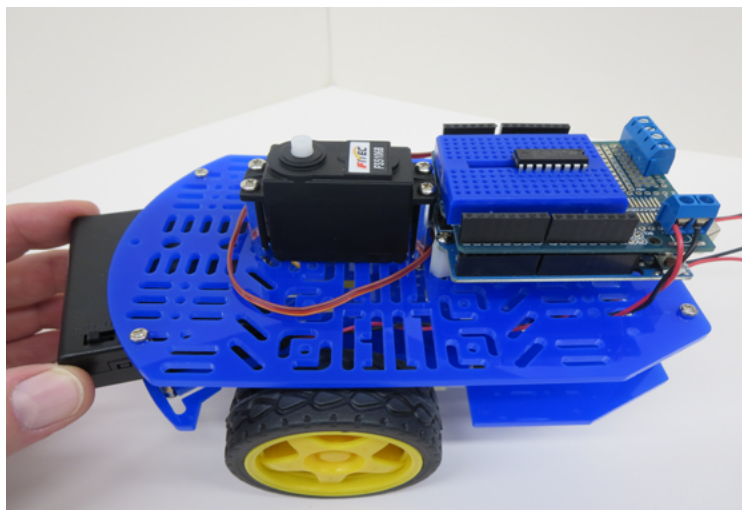

Fig.14
7. Insert the 4AA Battery Pack and connect the Red and Black wires as shown in Fig. 14 to the 2 position Motor Power terminal block.